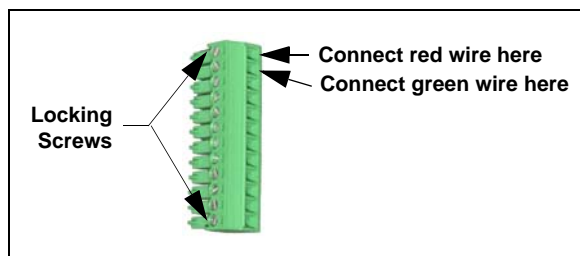

Figure 6. 12-position connector plug
6. Locate the 12-position connector plug (P/N 923686) in the Dionex ICS-900 Ship Kit (see Figure 6).